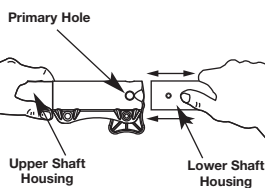

Fig. 2
3. While firmly holding the upper shaft housing, pull the add-on or extension boom out of the coupler (Fig. 2).
3. While firmly holding the add-on or extension boom, push it straight into the coupler (Fig. 2).